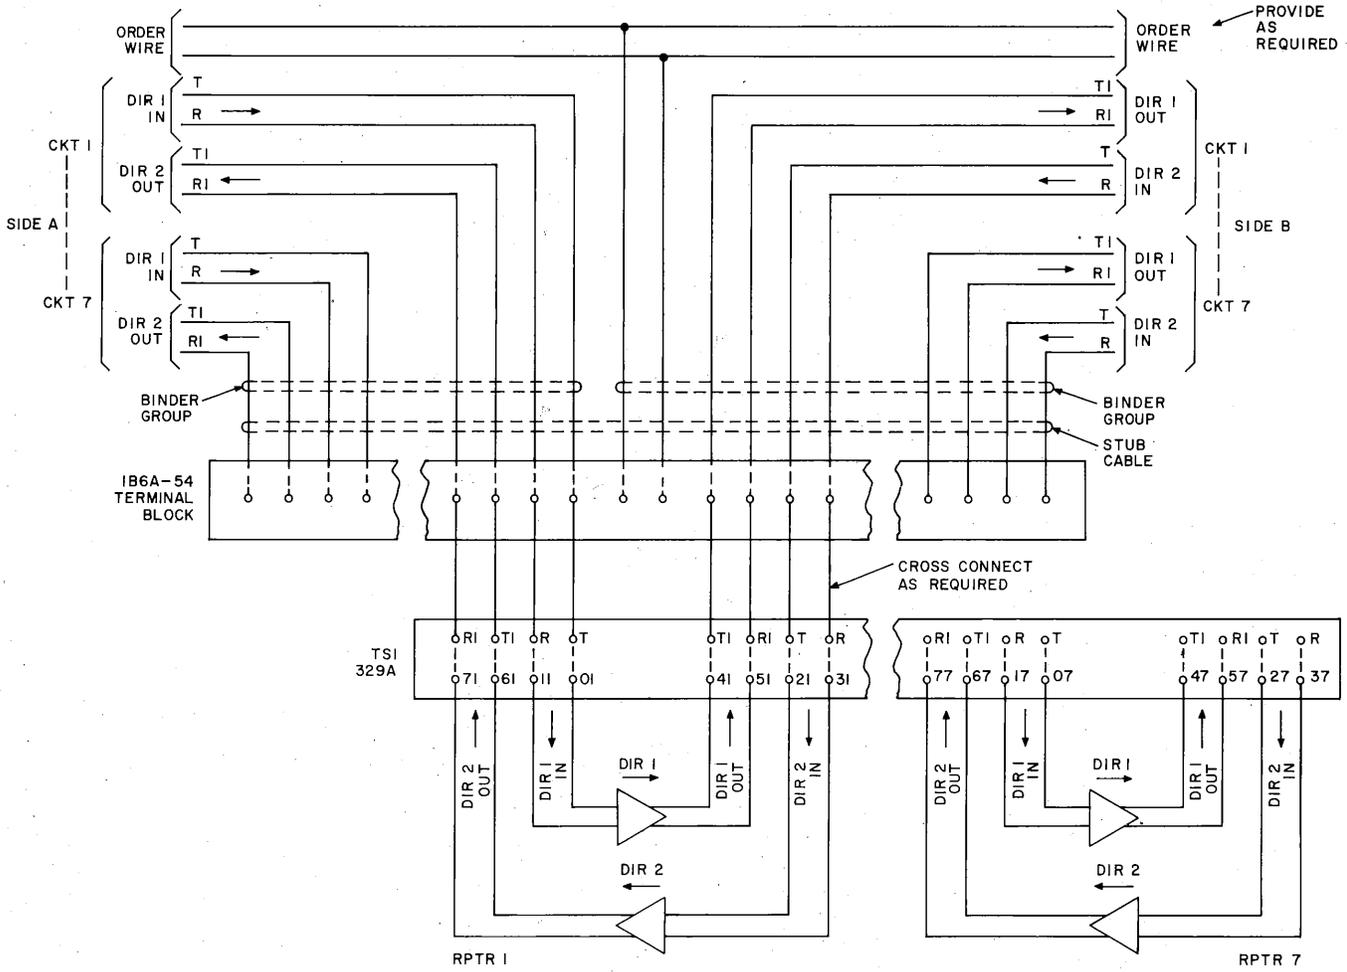

Fig. 5—Stub Cable Terminal Connections for J70171A Cabinet
3.11 Figure 5 shows the method of connecting seven repeaters, mounted in the J70171A cabinet. Order-wire connections for each circuit must be assigned at the terminal block.